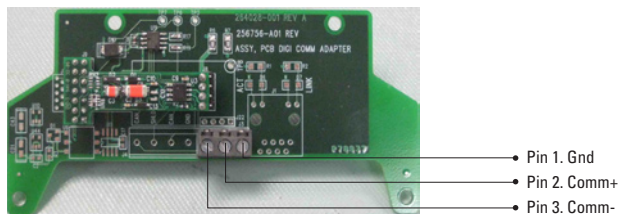

Figure 3
1. Locate the terminals on the board as shown in Figure 3.